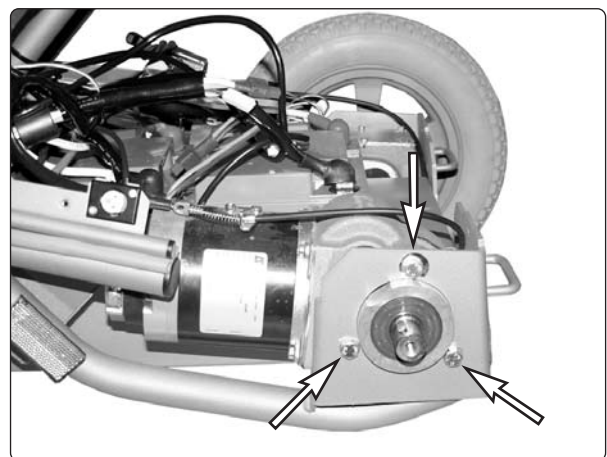

Fig. 21. Drive motor fixing bolts.
10. Remove the three bolts that hold the drive motor, see fig. 21.
6. Refit the drive motor, see fig. 21 on page 12.